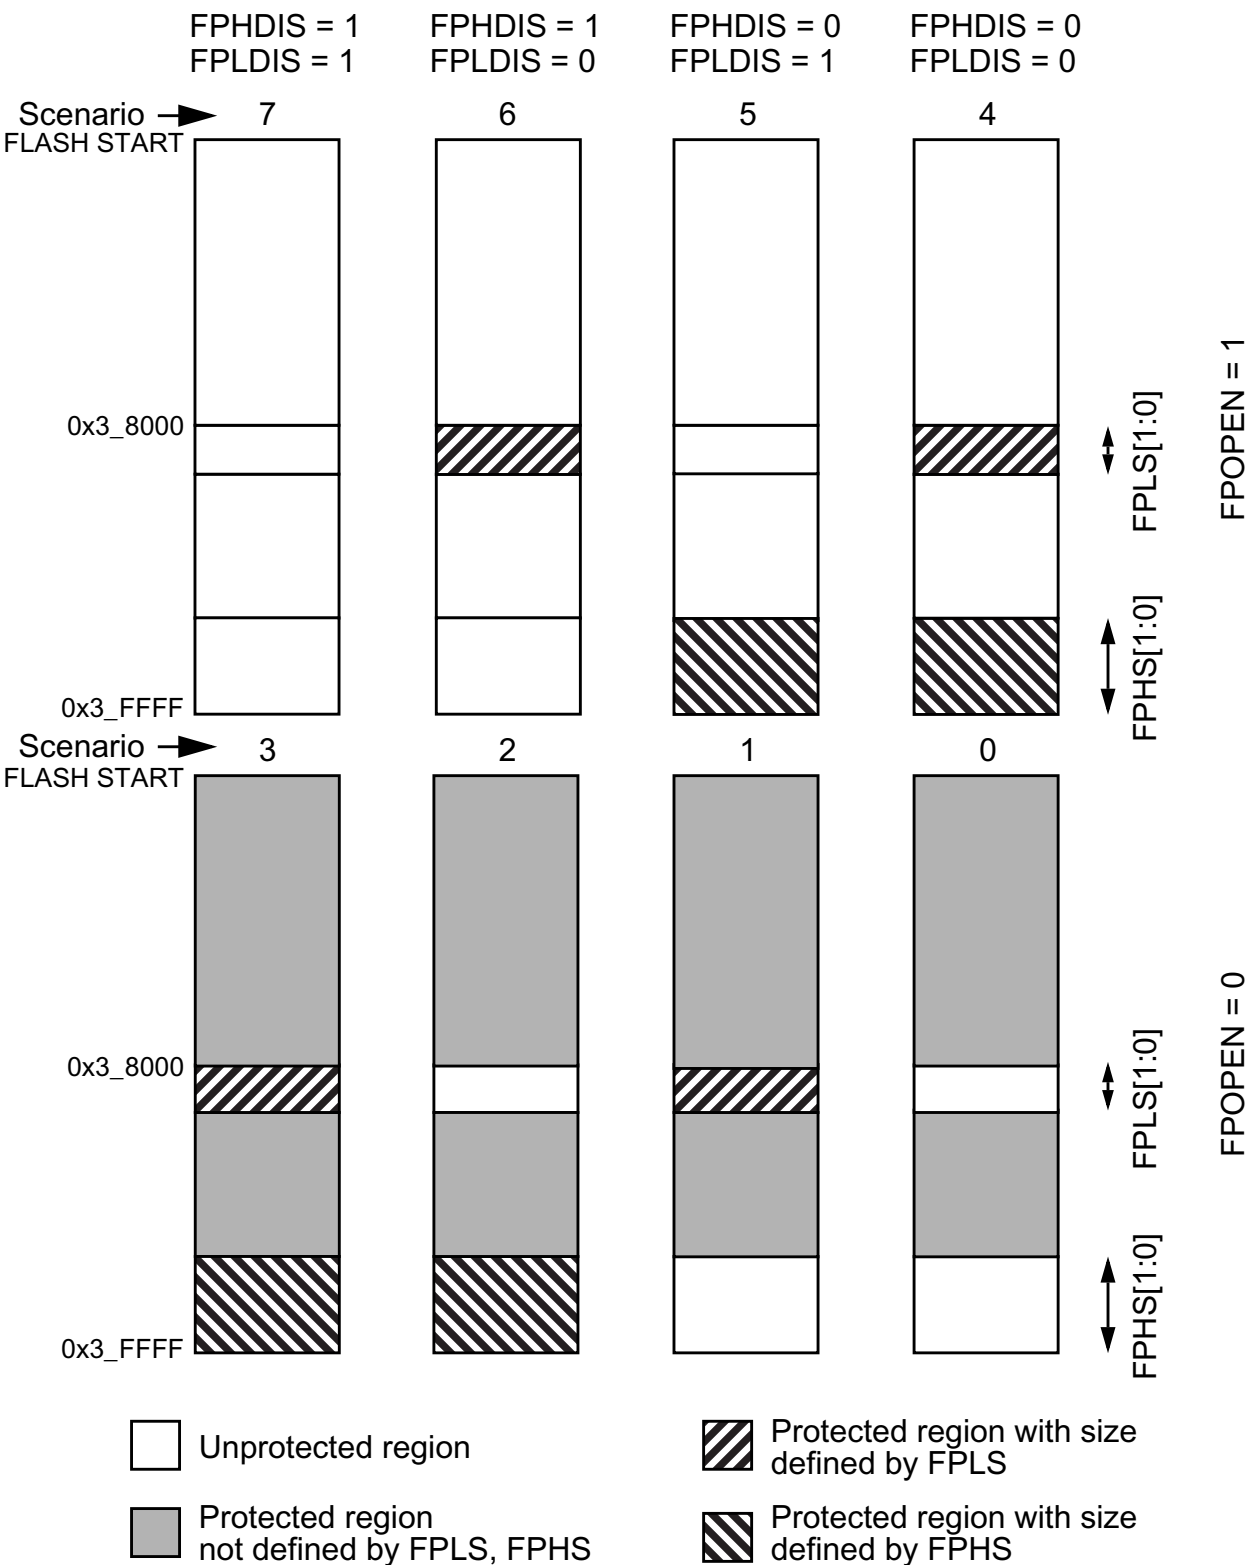

Figure 13-14. P-Flash Protection Scenarios
All possible P-Flash protection scenarios are shown in Figure 13-14. Although the protection scheme is loaded from the Flash memory at global address 0x3\_FF0C during the reset sequence, it can be changed by the user. The P-Flash protection scheme can be used by applications requiring reprogramming in single chip mode while providing as much protection as possible if reprogramming is not required.
1. Allowed transitions marked with X, see Figure 13-14 for a definition of the scenarios.